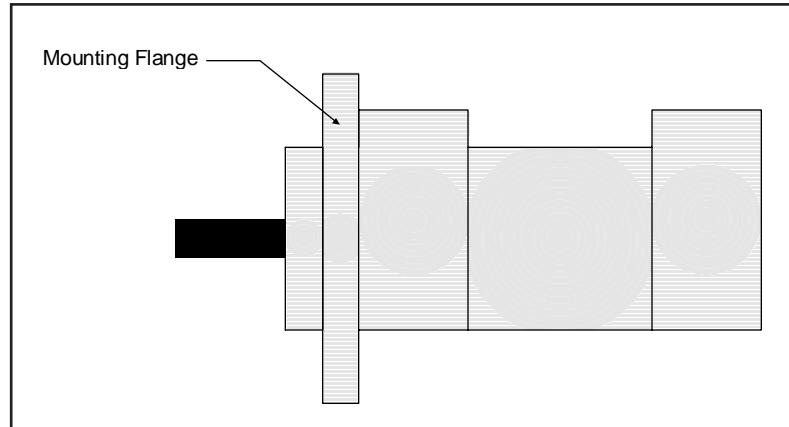

Figure 5 – Flange Mounted Pump
D.6.4 Aligning Flange Mounted Pumps and Drivers - See Figure 5